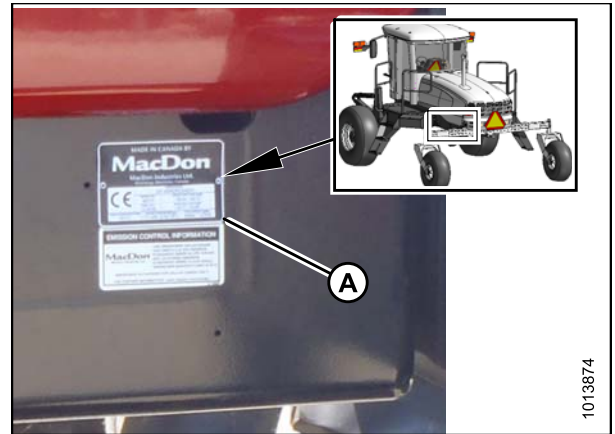

Figure 6.1: M155E4 Serial Number Location
- The windrower serial number plate (A) is located on the left side of the main frame near the walking beam as shown in Figure 6.1: *M155E4 Serial Number Location, page 17*.